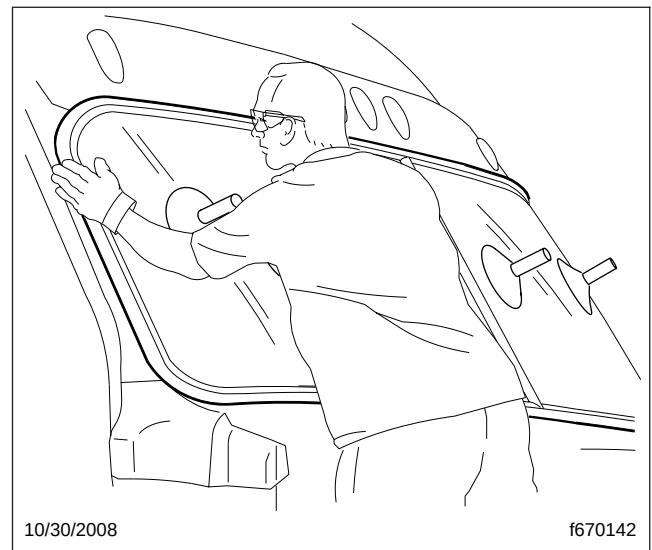

Fig. 6, Positioning Glass/Seal Assembly in Windshield Opening
17. Using care, place the glass/seal assembly on the windshield mask; see Fig. 6. Make sure the bottom of the glass/seal assembly sits on the front-wall nose beam as shown in Fig. 2.